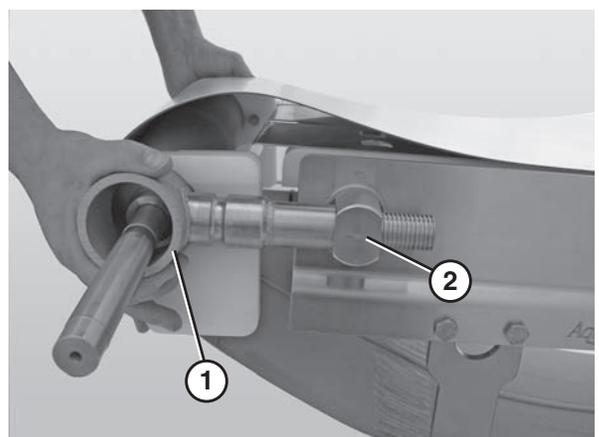

Figure 62
- Slide the drive tail assembly (**Figure 62, item 1**) out of the take up blocks (**Figure 62, item 2**).